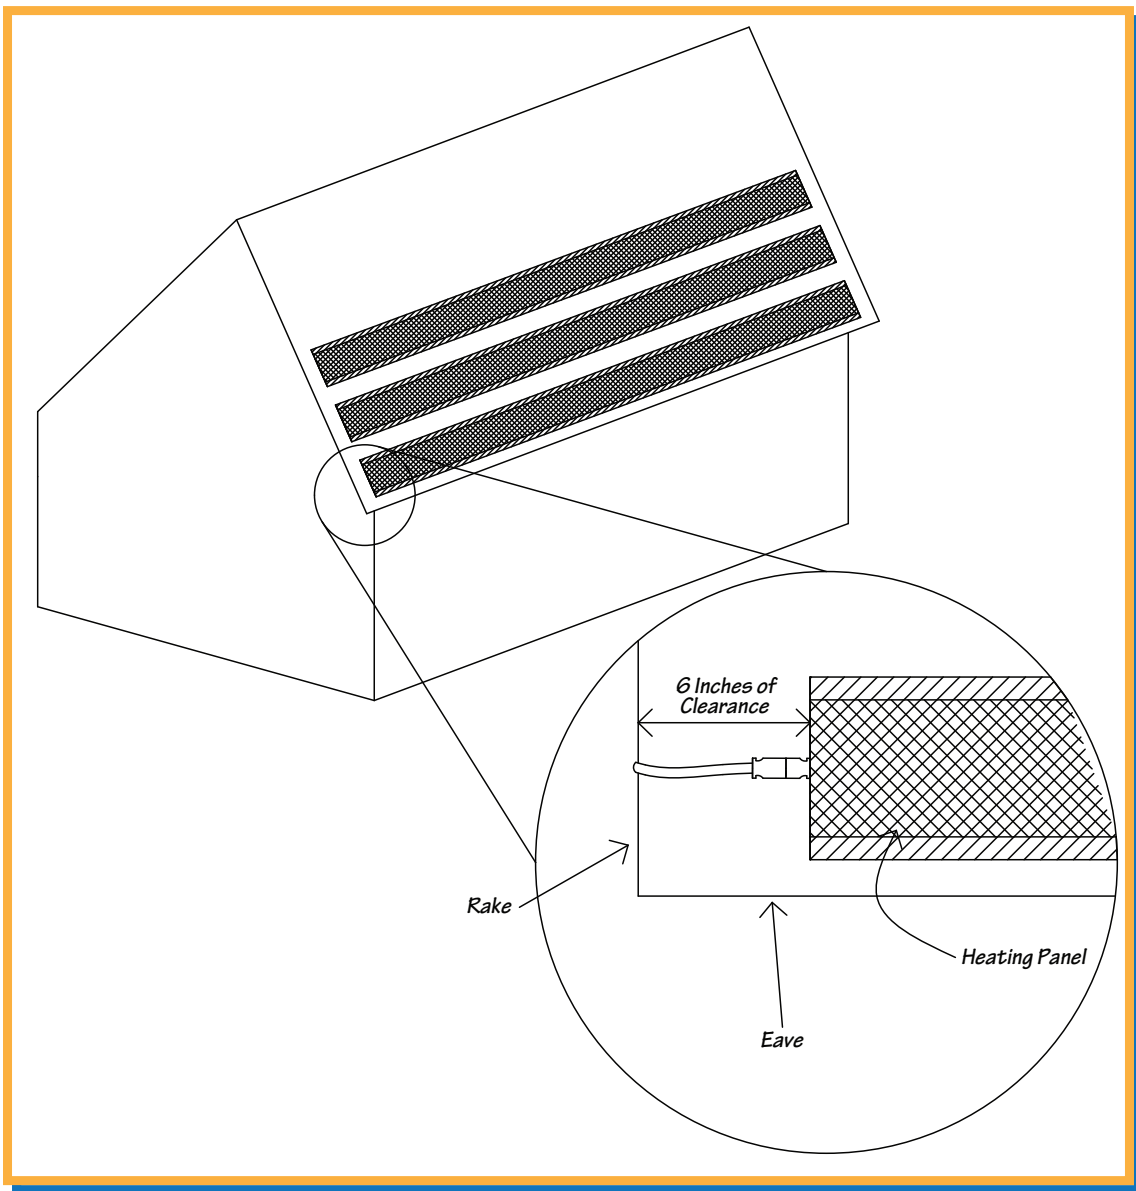

Figure 9. Proper Spacing From Shingle Edge
3. Ensure all heating panels are installed a minimum of 6 inches from the rake edge of the roof deck (not including the overhang) (see Figure 9).
2. Slide panel under the shingle exposure while making certain the heating panel is 6 inches away from the rake edge (see Figure 9).